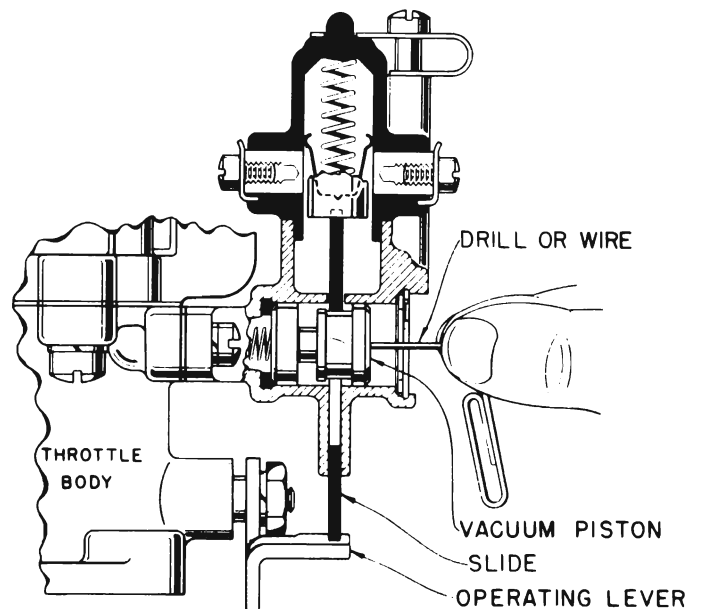

Figure 10-46—Pushing Vacuum Piston to Inner Position
2. With engine not running insert #65 drill or wire (small size paper clip) through center of screen to operate vacuum piston. DO NOT REMOVE SCREEN. See figure 10-46.
3. With throttle closed, first push vacuum piston to its inner position and hold it there while opening throttle. This will allow slide to drop into the shallow groove in the piston and will lock it in the inner position and prevent slide from dropping far enough to complete contact. See figure 10-46. Hold throttle open to prevent release of piston until completion of Steps 4 and 5. Remove drill or wire.